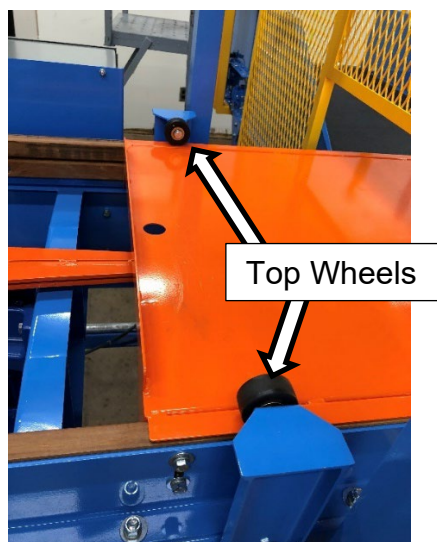

Figure 12. Pusher Blade Fully Extended
11. Move orange Blade to the fully extended position (Figure 12).